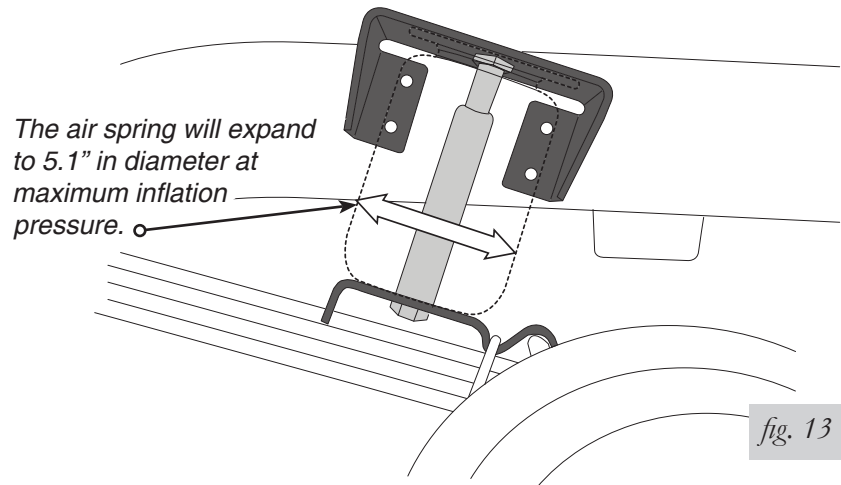

fig. 13
- The air spring will expand to 5.1" in diameter at maximum inflation pressure. Check horizontally along the shaft of the installation tool for sufficient clearance of 2.50" around the tool (fig. 13). Be sure to check and adjust any fasteners coming through the frame from the inboard side.